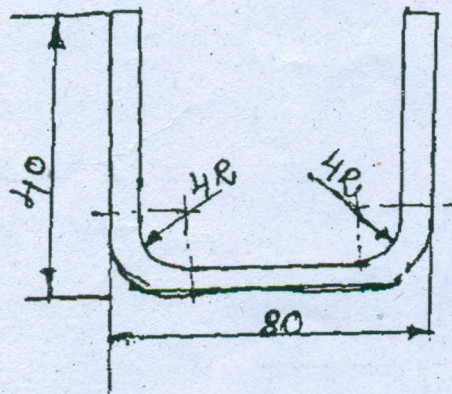

Fig. 4
14. (a) (i) Calculate the blank length to make the part shown in fig4. Also determine the bending force required if the ultimate tensile strength of material is 3500 kg/cm^2 . The die radius is 8 mm and the bend length is 120 cm . (12)
- (ii) Discuss the salient features of forming dies. (4)